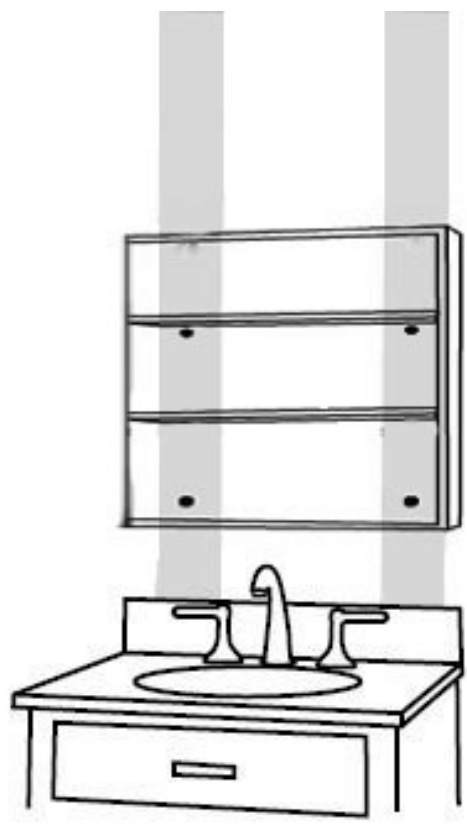

Fig. 3
3. Secure the cabinet to the wall studs with wood screws. Make sure the cabinet is level before attaching securely to the wall. To prevent warping do not overtighten the screws. (Figure 3)